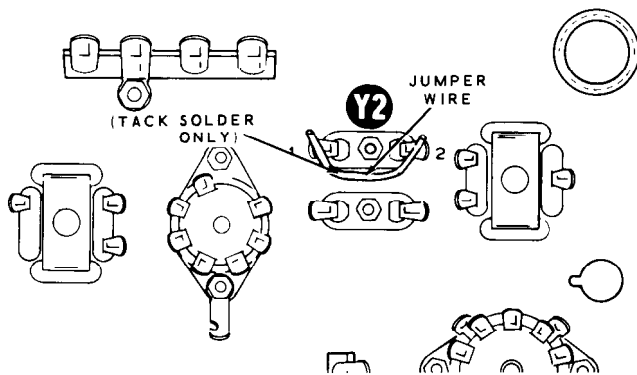

Figure 17
- () Connect a short jumper wire between lugs 1 and 2 of crystal socket Y2 as shown in Figure 17.